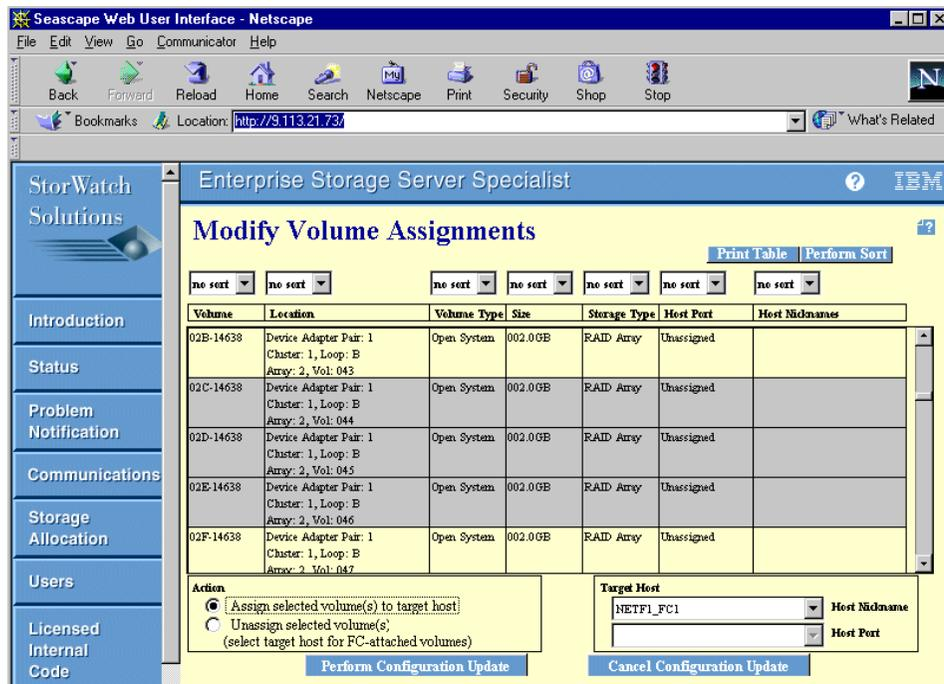

Figure 3-5 Select volumes to assign to the host
4. Highlight the volumes that you want to assign to the host. If multiple contiguous volumes are to be selected, highlight the first, press the Shift key, then highlight the last volume. If non-contiguous, use the Ctrl key, and highlight each volume. Refer to Figure 3-5 for an example.